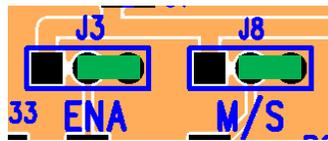

Figure 1: Shows the ENA and M/S jumpers in the DISABLE position.
STEP 1: Set the ENA and M/S jumpers to the Disable Position, as shown in Figure 1.